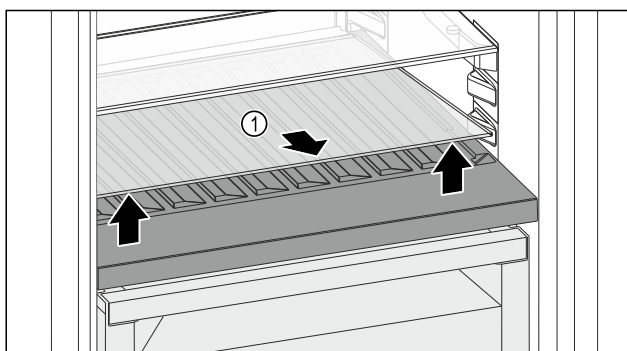

Fig. 91
- ▶ Lift the glass shelf Fig. 91 (1) at the front and remove.
- ▶ Store the glass shelf Fig. 91 (1) in a safe place outside the appliance.